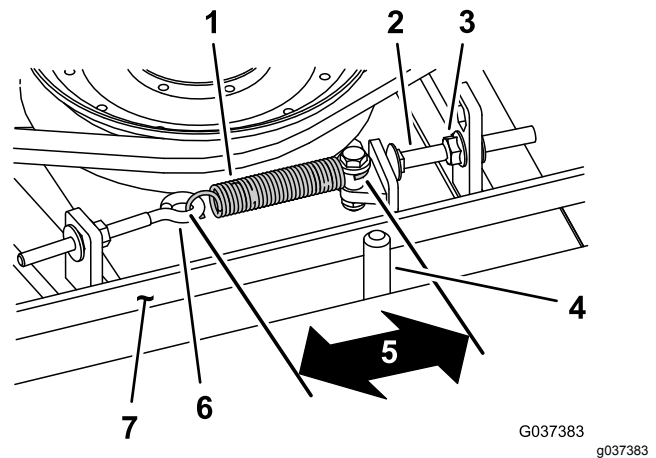

Figure 102
When properly tensioned, the inside measurement of the extension spring (hook to hook) should be approximately 8.3 to 9.5 cm (3-1/4 to 3-3/4 inches). Once the correct spring tension is attained, adjust the stop bolt (carriage bolt) until there is approximately 2 to 5 mm (0.065 to 0.185 inch) clearance between the head of the bolt and the idler arm (Figure 102).
Note: Ensure that the belt is positioned on the spring side of the belt guide (Figure 102).
2. Loosen the eye bolt (Figure 102).
3. Loosen the flange nut securing the stop bolt to the mounting tab and move the idler pulley away from the belt (Figure 102).
9. Connect the extension spring (Figure 102) to the eye bolt and tension the belt as follows: